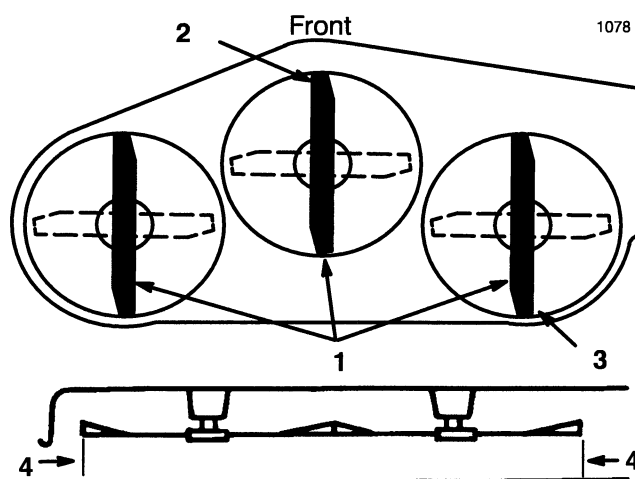

Figure 10
4. Carefully rotate blades so they are facing front and rear (Fig. 10).
5. Measure between the tip of the front blade (Fig. 10). and the tip of the rear blade to the flat surface. If the front blade tip is not 0-3/8" lower than the rear blade tip adjust front adjustment link.